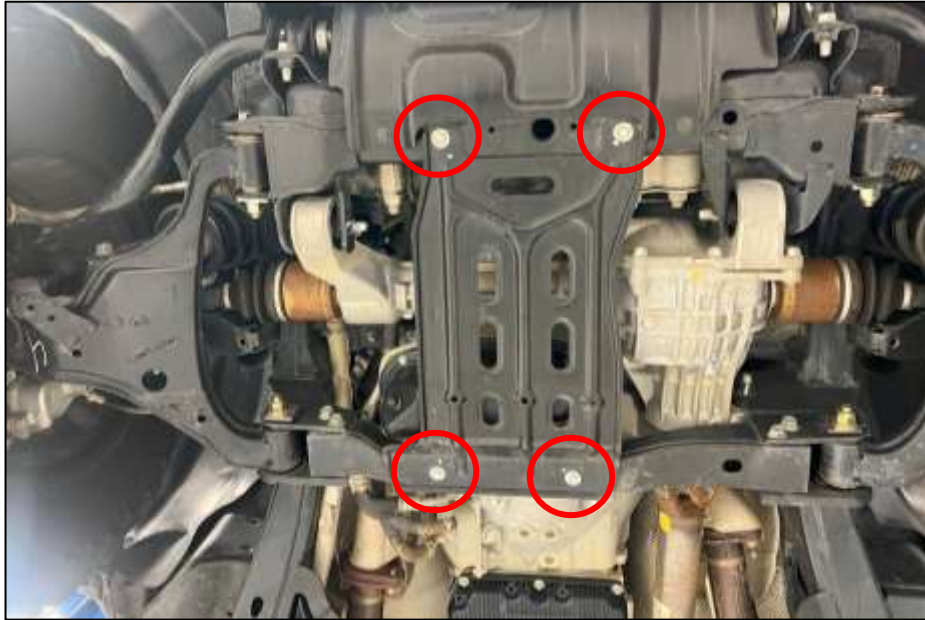

Figure 1
3. Remove the OE engine oil pan cover. It is attached to the vehicle at the corners with (4) four bolts, shown below in *Figure 1*.